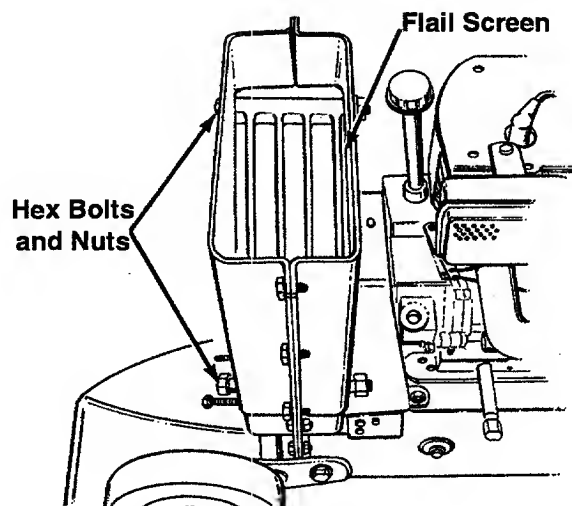

Figure 15
4. Remove the two hex bolts and hex nuts which extend through the housing. Lift the flail screen from inside the housing. See Figure 15.
NOTE: Be certain to reassemble the flail screen with the curved side down as shown in Figure 15.